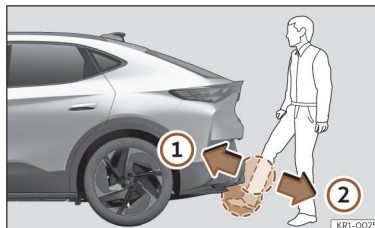

Fig. 79 Rear lid with sensor-controlled opening (Easy Open).
- With a brisk movement, bring your foot and lower leg as close as you can to the bumper. The lower part of the leg needs to be close to the upper sensor area and your foot to the lower sensor area >>> Fig. 79 ①.
- Quickly remove your foot and lower leg from the sensor areas >>> Fig. 79 ②. The rear lid will open automatically.